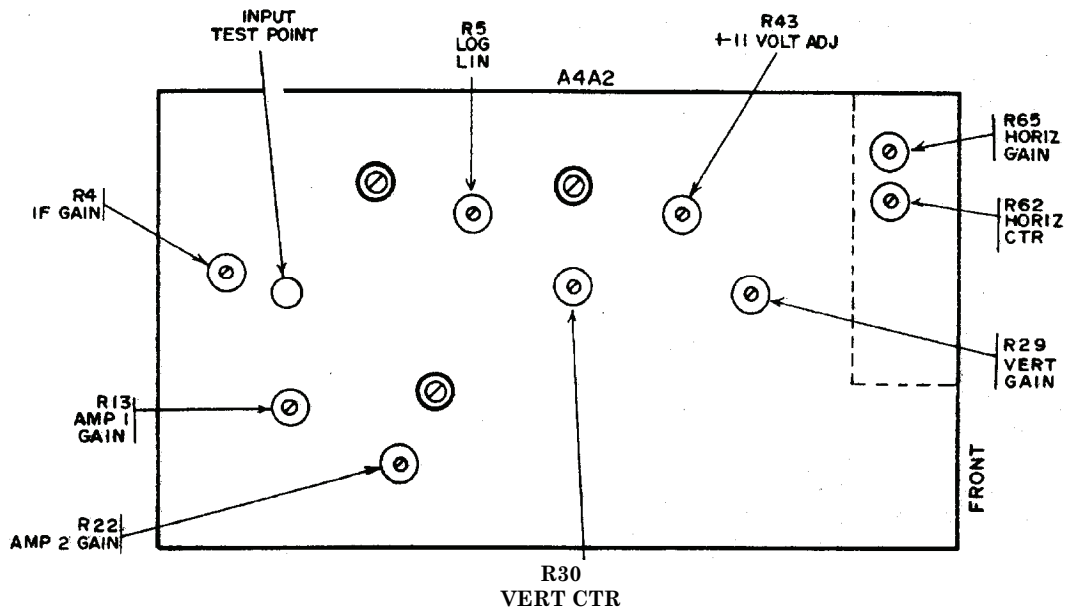

Figure 6. Spectrum analyzer No. 2 - adjustment locations.
- (2) Adjust +11 VOLT ADJ A4A2R43 (fig. 6) for an 11 V indication on multimeter (R).
- (3) Adjust VERT CTR A4A2R30 (fig. 6) until bottom of trace indicates -109 dBm (R).
- (4) Connect oscilloscope to INPUT TEST POINT (fig. 6).
- (5) Adjust signal generator amplitude for -30 dBm.
- (6) Adjust IF GAIN A4A2R4 (fig. 6) for 0.4 V p-p spike on oscilloscope (R).
- (7) Adjust VERT GAIN A4A2R29 (fig. 6) for -30 dBm indication on TI (R).
- (8) If bottom of trace does not indicate -109 dBm, repeat **b** (3) above.
- (9) Adjust signal generator amplitude to -40 dBm.
- (10) Adjust LOG LIN A4A2R5 (fig. 6) for a -40 dBm indication on TI. If a -40 dBm indication cannot be obtained go on to next step (R).
- (11) Adjust signal generator to -30 dBm and repeat **b** (7) through (10) above until no further adjustments are required.
- (12) Adjust signal generator amplitude for -60 dBm.
- (13) Adjust AMP 1 GAIN A4A2R13 (fig. 6) for a -60-dBm indication on TI (R).
- (14) Adjust signal generator amplitude for -90 dBm.
- (15) Adjust AMP 2 GAIN A4A2R22 (fig. 6) for a -90-dBm indication on TI (R).
- (16) Repeat **b** (12) through (15) above until no further adjustments are required.
- (17) Adjust signal generator amplitude for -30 dBm and repeat **b** (7) through (16) above until no further adjustments are required.
(1) Adjust **HORIZ CTR** A4A2R62 (fig. 6) until peak of signal is centered on centerline (R).
(2) Adjust **HORIZ GAIN** A4A2R65 (fig. 6) until end of trace is aligned with right edge of bezel.
(3) Repeat (1) and (2) above until no further adjustments are required.